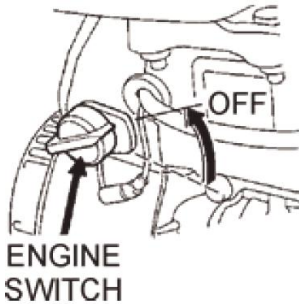

FIG.12
10.2 After the engine cools, turn the engine start/stop switch to the "OFF" position (FIG. 12).